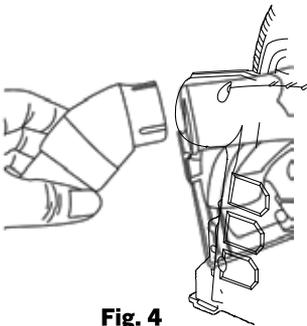

Fig. 4
2. Insert the dust adaptor to dust port until it fastens. (Fig. 4)